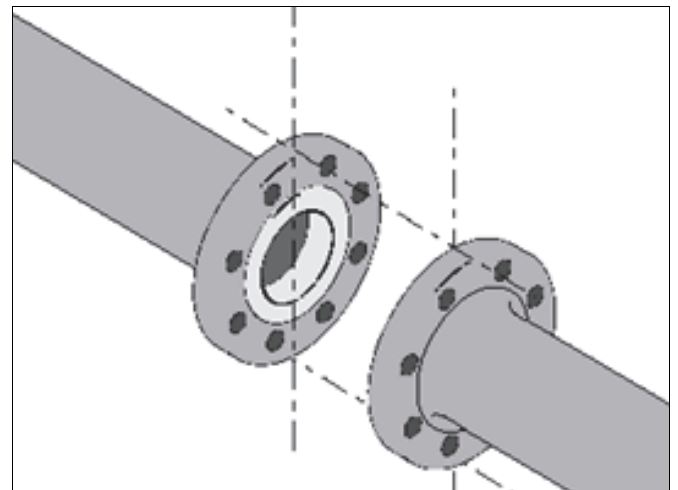

Fig. 5 Check the flange position before installing
- The flange holes of both pipe ends must be exactly aligned and the sealing surface of the opposing flanges must be exactly parallel. The flange holes must not be twisted against each other, to ensure that the installation cannot cause any stress in the valve. (see Figure 5)